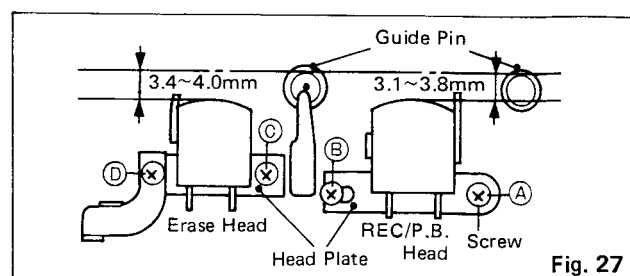

Fig. 27
1. Replace the recording heads by removing the two screws marked **(A)** and **(B)** in Fig. 27.
2. Replace the erasing heads by removing the two screws marked **(C)** and **(D)** in Fig. 27.
3. Adjust the screw position and play when reassembling, so that both heads fall within the allowance indicated in Fig. 27 when depressing the PLAY button.
3. By rotating screw **(B)** in Fig. 27, adjust so that the vacuum tube volt meter pointer indicates the maximum value.